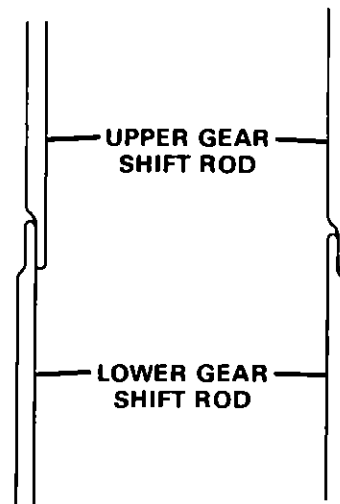

Figure 40. Connecting Gear Shift Rods.
- F Position lower unit, aligning lower gear shift rod to upper rod. Shift rods must be positioned correctly or leakage and damage to gear shift rod seal will occur. Connect rods with screw. Figure 40
- H Secure gear housing to motor leg with four (4) hex head screws